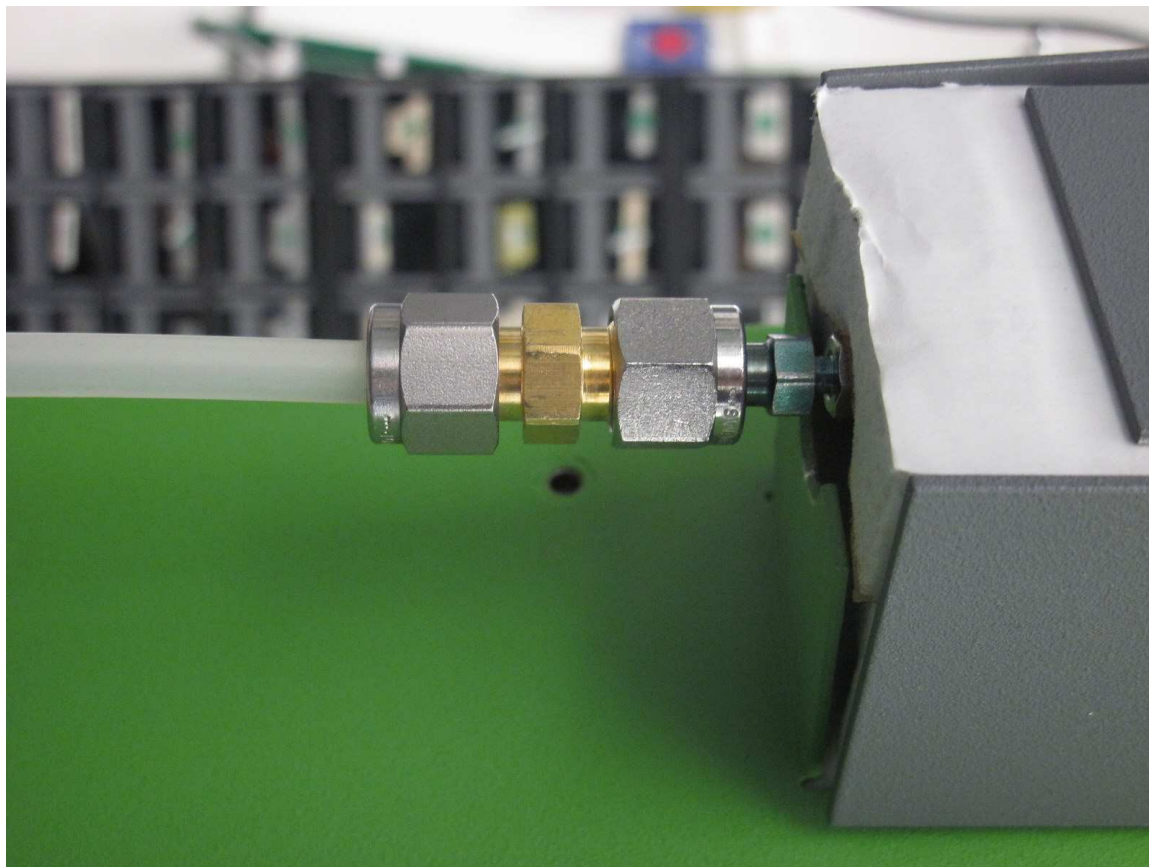

Figure 2. Tubing connected to outlet of vaporizer.
6. Connect ¼" tubing (1 foot segment) to vaporizer outlet using supplied adapter as in Figure 2. Place container at the outlet of the tubing, this will capture the rinse waste.